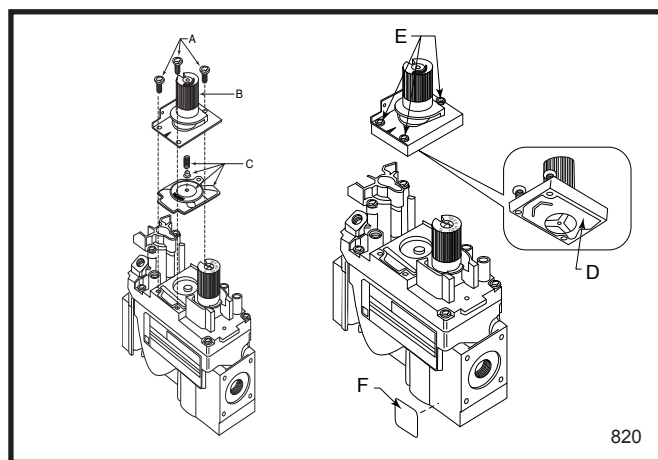

Fig. 46 Nova SIT 820 gas valve.
10. SIT 820 NOVA Gas Control Valve (Fig. 46)
- a. Using a Torx T20 or slotted screwdriver, remove and save the three pressure regulator mounting screws (A), pressure regulator tower (B) and diaphragm (C).